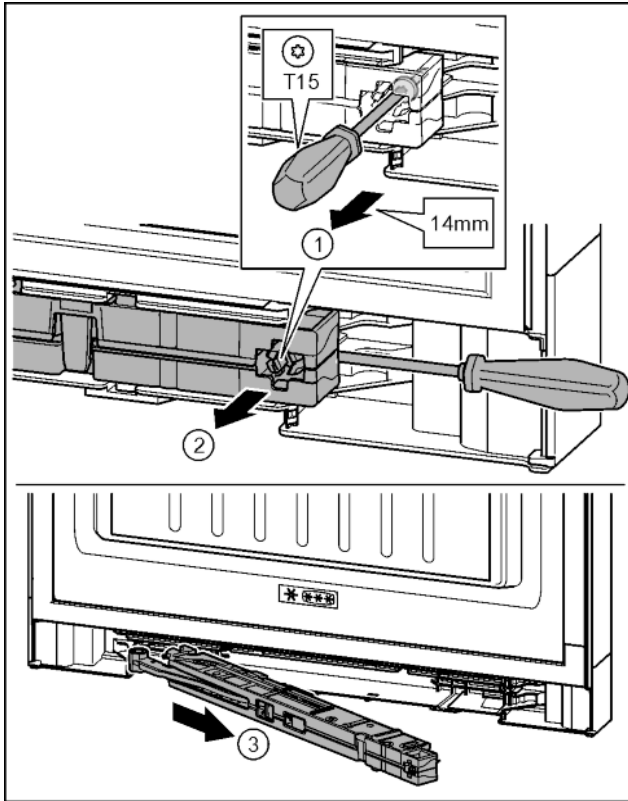

Fig. 16
- ▶ Undo the screw on the soft stop mechanism about 14 mm with a T15 screwdriver. Fig. 16 (1)
- ▶ Insert the screwdriver on the handle side behind the soft stop mechanism. Turn the unit forwards. Fig. 16 (2)
- ▶ Remove the unit. Fig. 16 (3)